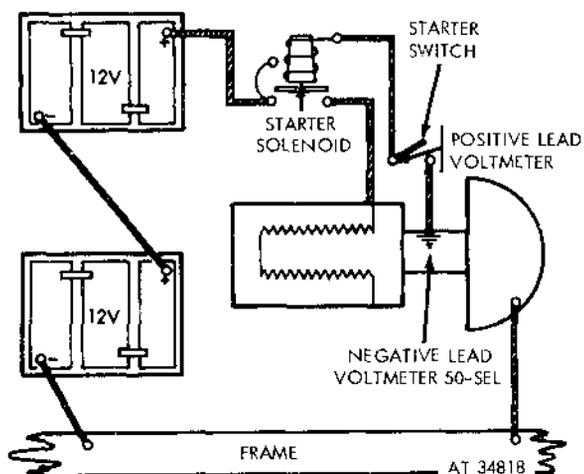

Figure 2-28. Starter switch test.
a. Starter Switch Test (Gasoline Model) (Fig. 2-28).
(1) The starter switch is located on top of the starter and is used to ground the starter solenoid and complete the starter circuit.
(2) To check the starter switch, connect the negative (—) lead to vehicle ground, and put the selector on the 50-volt scale.
(3) Connect the positive (+) lead of the voltmeter to the magnetic side of the starter switch. The meter should read battery voltage. If the meter reads battery voltage, the circuit to the switch is complete.
(4) Remove the positive (+) lead and connect it to the other side of the starter switch. The meter should read no voltage.
(5) Connect the positive (+) lead to the relay side of the starter switch and the negative (—) lead to the ground side of the switch. The meter should read battery voltage.
(6) Close the starter switch with the ignition switch set to OFF. The meter should read zero volts.